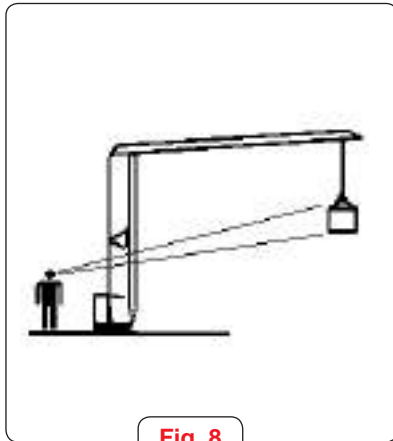

Fig. 8
15. The operator must have a perfect view of the working area and the load (Fig 8)